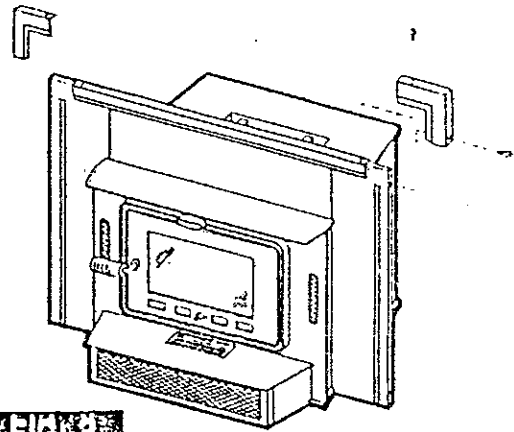

FIG. 2
7. Using the corner trim as a guide, drill the four (4) 3/16" dia. holes needed to attach the two (2) corners. Secure the corners using the brass screws provided (See Fig. 2).